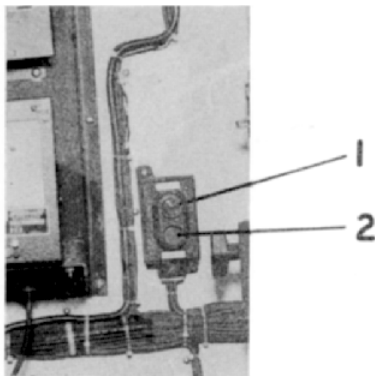

FIG. 17
The Air Brake Fault "Red" Indicating Light (1) Fig. 17, located in each electric locker, when illuminated indicates a fault in the electric circuit of the A-1-A Electric Operating Unit (36) Fig. 22, GN (51) Fig. 23, which renders the electric-pneumatic brakes inoperative on that car.
Push "Reset Push Button" (2) Fig. 17 to reset A-1-A electric operating unit. It will reset "Red" indicating light will go out.
If the Battery Disconnect Circuit Breaker (18) Fig. 13 is tripped or in OFF position, when reset or placed to ON position, the air brake fault "Red" indicating light will be illuminated. In order to energize A-1-A Electronic Operating Unit, push reset button (2) Fig. 17.